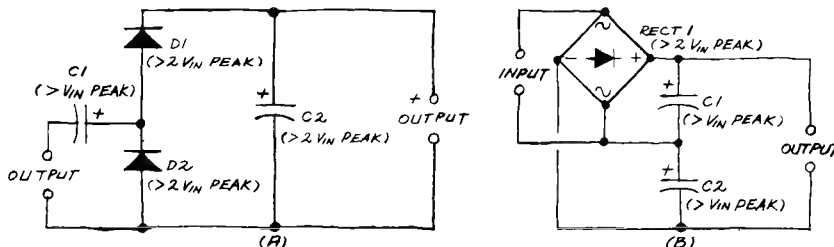
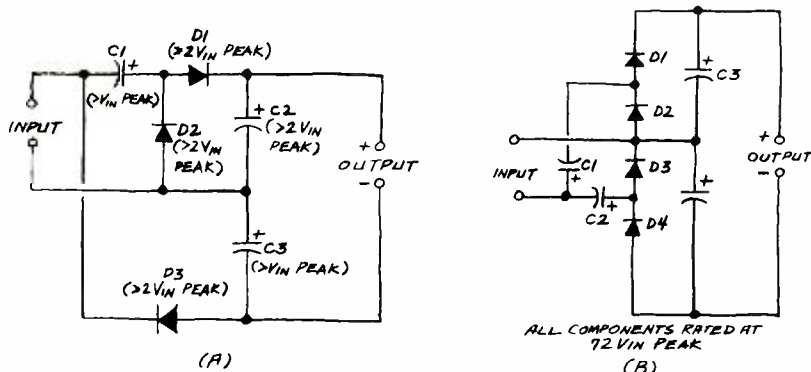

Fig. 2. Two different ways to make a voltage divider.
Fig. 3. Full-wave voltage tripler and quadrupler circuits.
Figure 2 shows two other ways to make a voltage doubler. The cascade doubler (A) isn't as efficient or as well-regulated as either the traditional or bridge doubler, but it can easily be expanded to many stages. (Component voltage ratings are given in parentheses.) It's possible to obtain outputs of many thousands of volts from multi-stage cascade voltage multipliers. Figure 3 shows both a full-wave voltage tripler (A) and quadrupler (B).